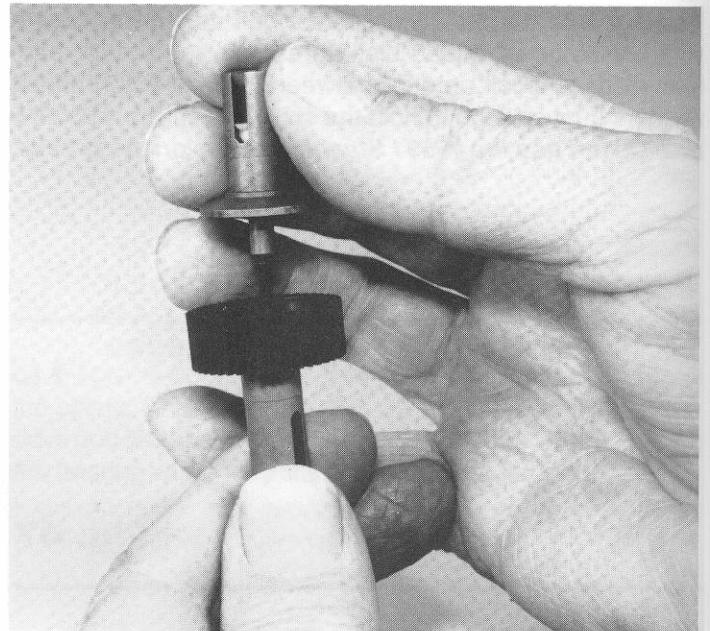

Fig. 54
□ **Fig. 54** Now we are going to install the #6578 left diff drive hub assembly over the #6575 diff bolt until it seats on the #6579 diff drive ring. IT IS VERY IMPORTANT that you make sure that the hub centers on the diff drive ring.